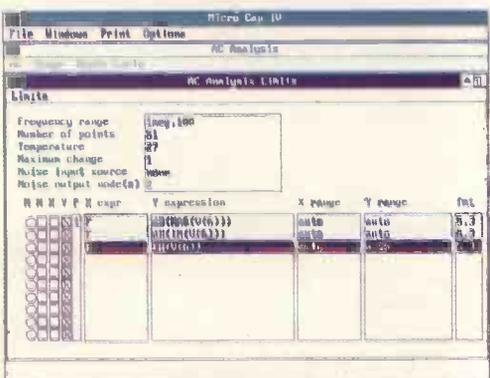

Fig. 2. The ac analysis dialogue box allows analyses to proceed interactively.
The most convenient technique is to draw the schematic, add .MODEL and other statements, then work with this combined schematic-netlist, using the interactive Limits boxes, of which there is one each for dc, ac, Fig. 2, and transient analyses.
Otherwise, and more usually, analyses are controlled from the box, Fig. 2. To reach this from the schematic screen, select the Run menu, then item 2:AC Analysis. The upper panel holds run parameters, beginning with the frequency range and listing the final and starting frequencies. The default number of steps is 51, giving 50 equal intervals throughout the range, and overrides the Spice command given on the netlist.
In Fig. 2, the first line states that the y-variable is to be the magnitude, MAG, of the voltage, V, at node 6, plotted on a decibel scale. The second line calls for the imaginary component of the voltage at node 6, plotted on a decibel scale. The third line asks for the phase of the voltage at node 6. Click on 'Limits' and select 1:Default all, to enter 'auto' in the X range and Y range columns. The software now calculates suitable limits for the graphs.
To plot only the magnitude-frequency graph, select the table's first row by typing '1' in the plot column, P, Fig. 2. Click on the square in the Limit box top left corner and select 6:Close. The ac analysis screen is revealed. Click on AC